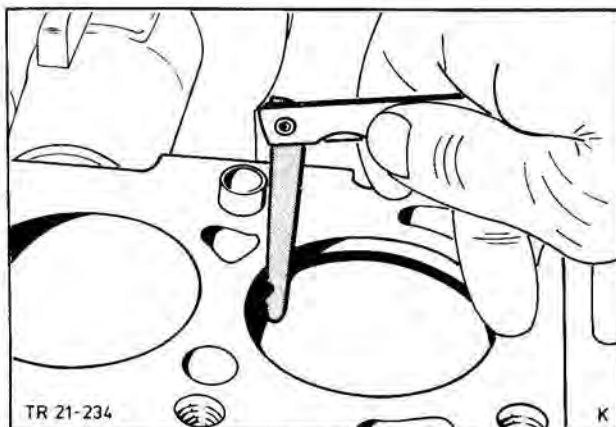

Fig. 52. Check piston ring gaps
8. Before fitting the pistons, check ring gaps (Fig. 52). Indicated values (see Technical Data) are for the gauge ring used in production and can be exceeded by 0,15 mm, measuring in the cylinder.